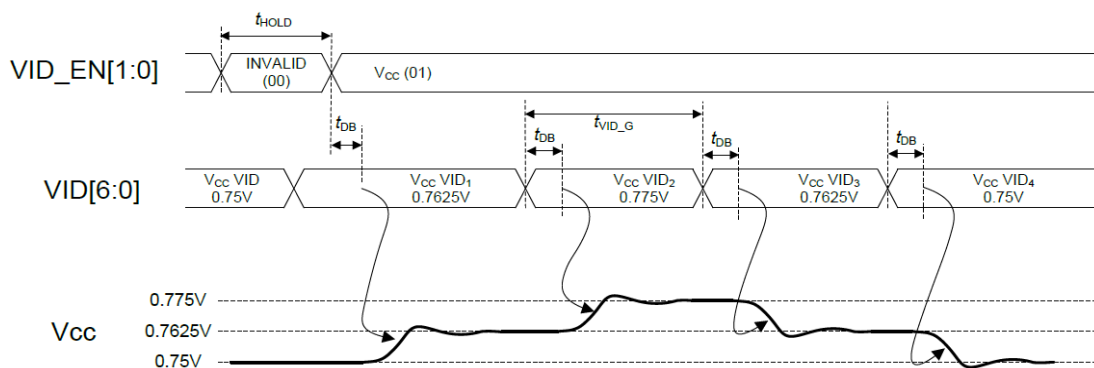

Figure 13. Dynamic VCC Timing Diagram
Figure 13 shows how the VCC output voltage can change during normal runtime operation when the VIDEN signals are set to VCC (01). If the VIDEN signals are set to VCC (01), the VCC regulator must monitor the VID signals, latch any changes, and change the output voltage setting accordingly. When the CPU is dynamically changing the VID setting for the VCC regulator during normal operation, it will only change the VID combination by 1 step, which corresponds to a voltage step of $\pm 12.5 \text{ mV}$. During these changes, the VCC regulator must follow the 25 mV/ms slew rate specification.